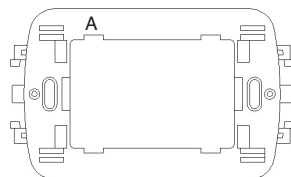

Fig. 3 Portaplacca "A" Holder plates "A"
**CORNICE PORTAPLACCA "A" (Fig.3)**
**HOLDER PLATE "A" (Fig.3)**